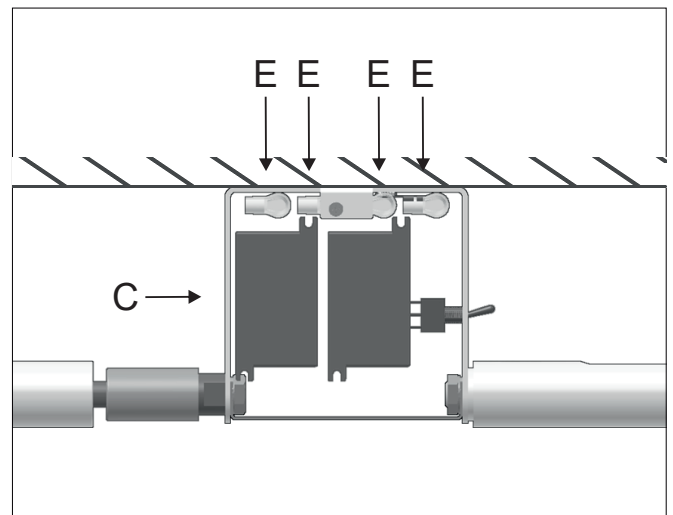

Figure 6
6 - Put the forbox (E) with the connections between the drivers (C) and the wall. Figure 6.